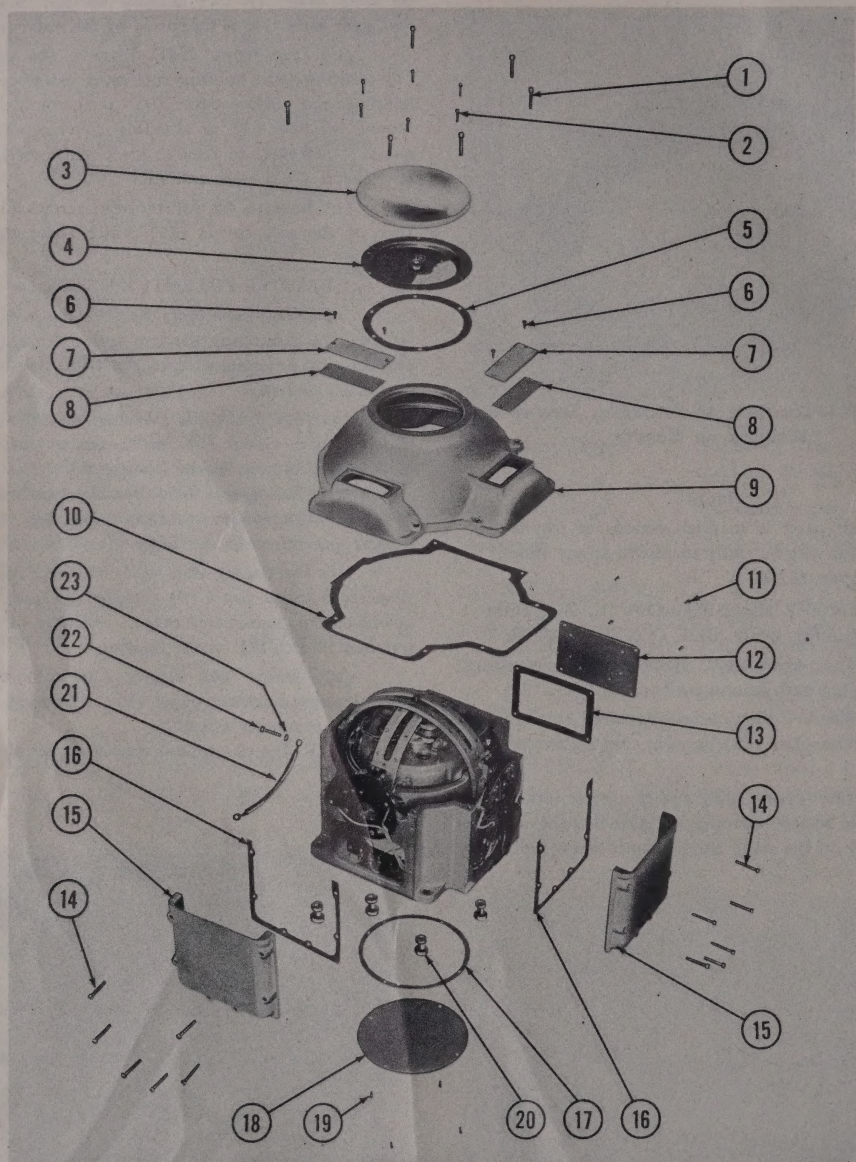

Figure 162 — Gyro Cover, Exploded View
(1) REMOVE HOUSING COVER, BOTTOM PLATE, AND SIDE COVER PLATES.
(a) (See figure 162.) Remove shock mounting grommets (20) and ground lead wire (21).
(d) (See figure 162.) Remove the six screws (1) securing gyro housing top cover assembly to gyro housing, and remove cover (9). It is not necessary to remove window (3) or shipping cover assembly (4), nor is it necessary to remove the potentiometer inspection covers (7) unless desired.